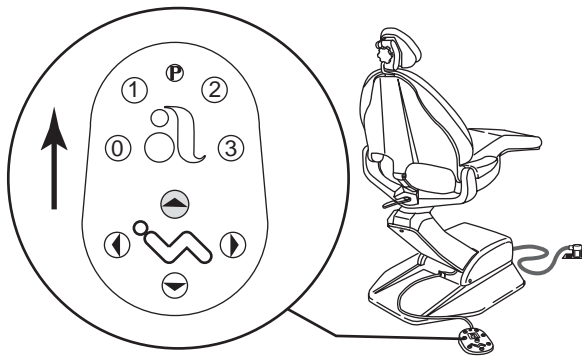

Figure 1
4. Raise the chair base completely up using the footswitch (see Figure 1).